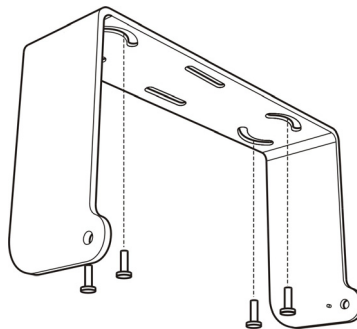
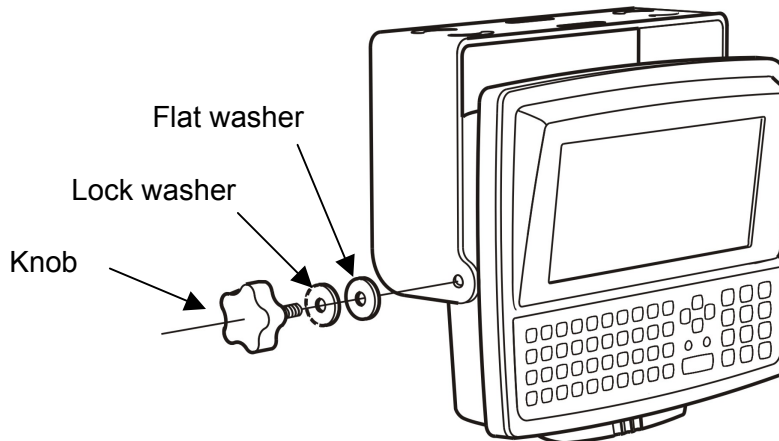

Figure 3 – ST222 Bracket Screw Positioning for Roof Mounting
Figure 4 - Mounting Rhino-NET™ to the Bracket
- 2 The slots on the bracket will help obtain the best positioning. When working in environments characterized by strong vibrations, set the screws as close as possible to the bracket edges, see Figure 3.
- 3 Tighten the ST-222 bracket to the forklift using the screws and washers. In the absence of a surface area to mount to, the ST-247 Counter Bracket can be used to sandwich the forklift frame between the two brackets. The threaded hole for the set pin at the bottom of the ST-222 should be at user's right hand side when facing in front of the terminal, see Figure 3 and Figure 4.